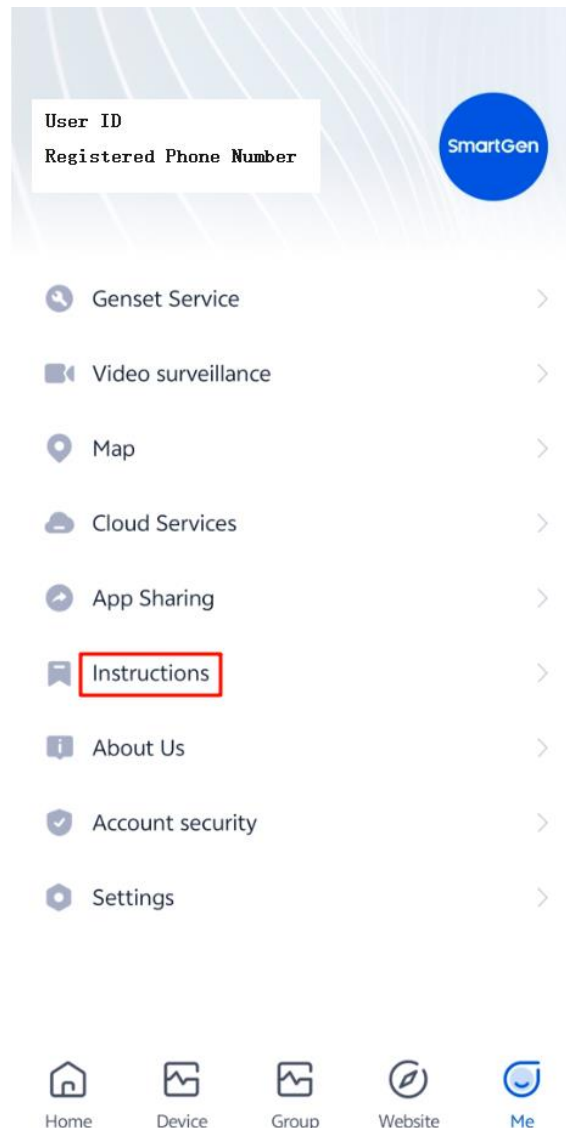

Fig. 12 – APP Display Interface
- 3) For other related settings, refer to the "My → Getting Started Guide" for operations (as shown in Fig. 12, the APP display interface).